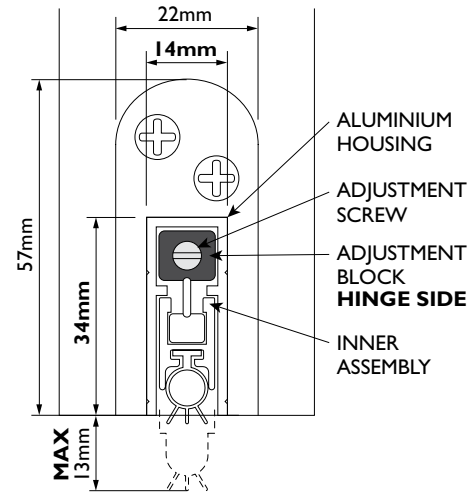

FIG.2
STEP 9 Re-hang door. For soft timber jambs, position striker button where adjustment block meets door jamb. **(FIG.2)**